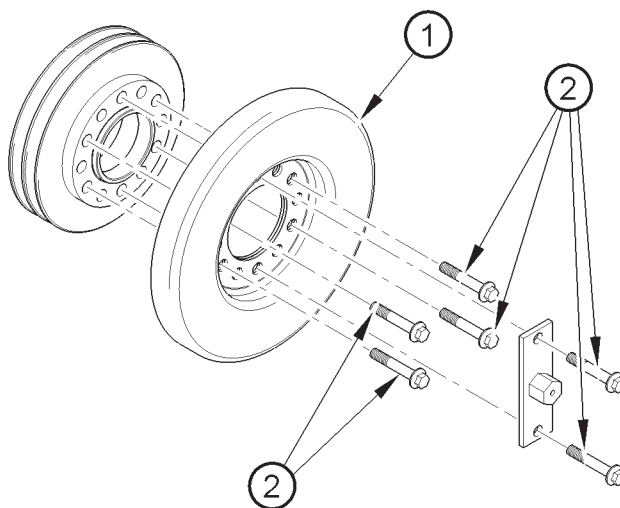

Figure 27
Caution: A vibration damper (figure 27 items 1) should be renewed if there is impact damage to the outer casing or if there is leakage of the viscous fluid from the cover plate.
Check that the six bolts (figure 27 item 2) for the viscous damper are tightened correctly: